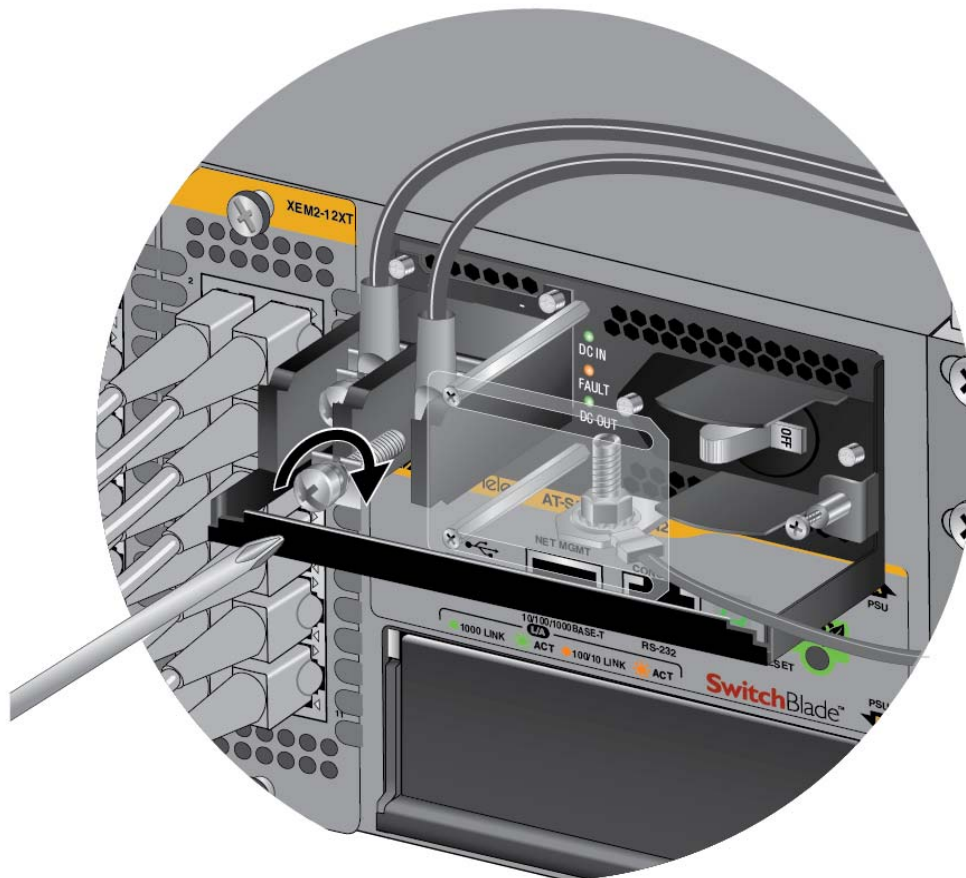

Figure 73. Connecting the Negative (-) Power Wire with a Straight Terminal
7. With a #3 Phillips-head screwdriver, connect the negative (-) power lead wire to the negative terminal on the power supply, with the remaining terminal screw removed in step 5. The negative terminal is on the right. You may attach the terminals with the wires either above or below the terminal block. Figure 73 on page 108 shows the wires above the terminal block.